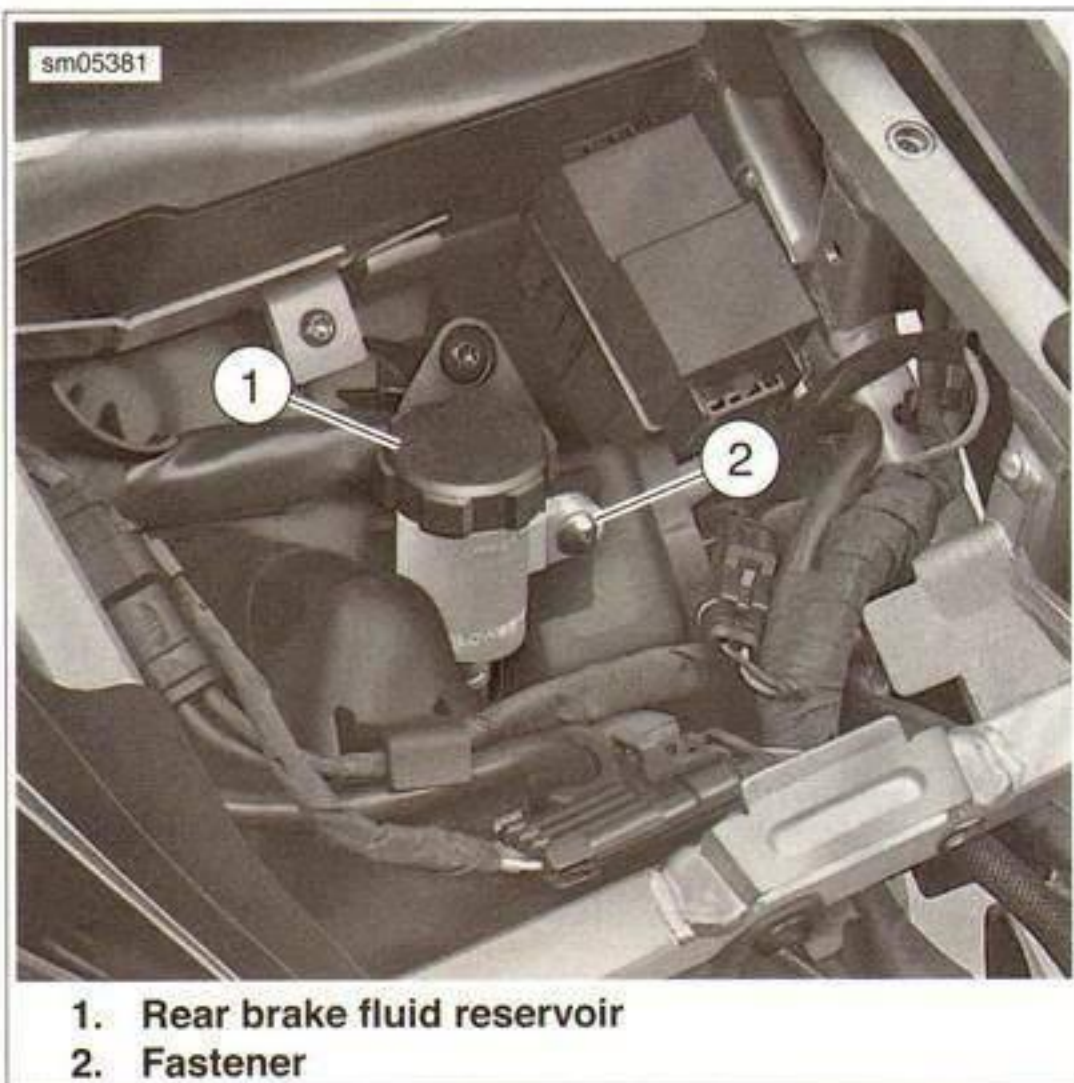

Figure 3-55. Rear Brake Fluid Reservoir
12. See Figure 3-55. Install the rear brake fluid reservoir fastener. Tighten to 3.6-4.1 Nm (32-36 in-lbs).